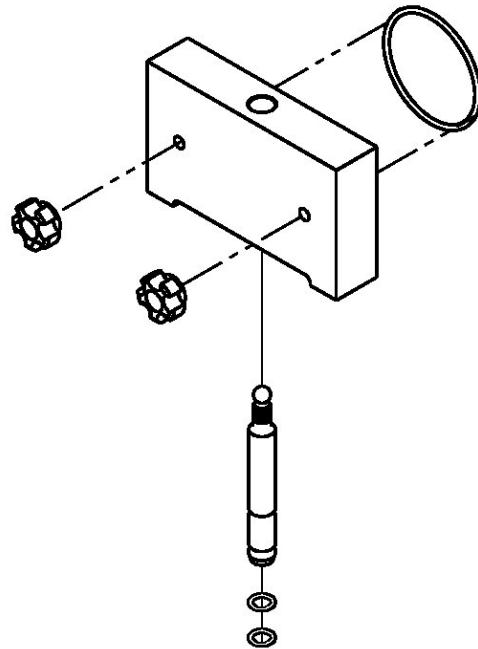

Figure 3-8 Front Door Parts
- H. Install the spigot body with o-ring into the front door from bottom (Fig. 3-8). Push straight up until the spigot is in place.